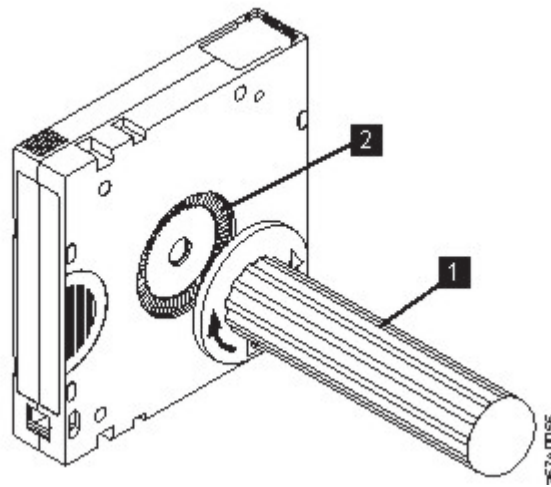

Figure 104. Rewinding the tape into the cartridge
5. To rewind the tape, insert the cartridge manual rewind tool (1 in Figure 104 on page 225) into the cartridge's hub (2) and turn it clockwise until the tape becomes taut.